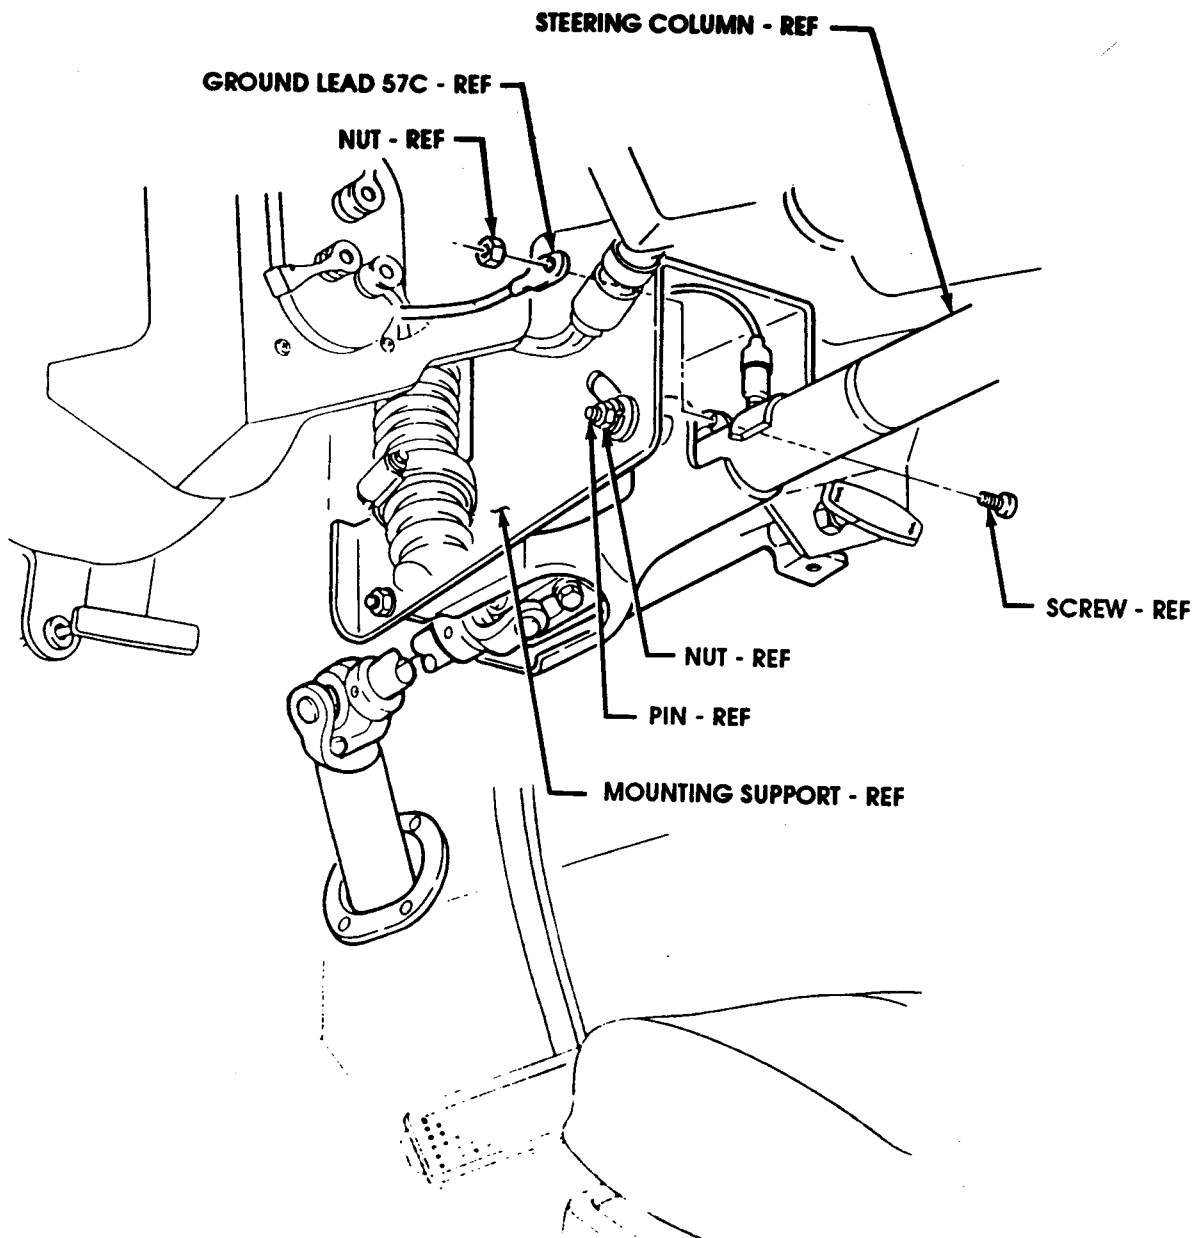

FIGURE 1
- (1) Loosen nut on pin and place steering column in down position on mounting support as shown in figure 1.
- (1) Remove screw, nut, and ground lead 57C from steering column as shown in figure 1.